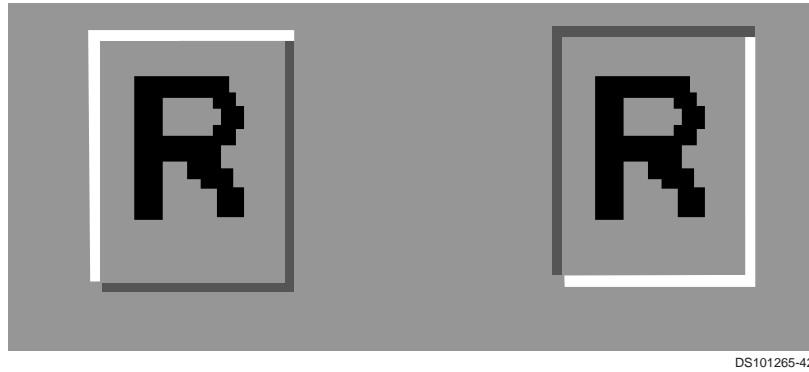

FIGURE 36. Button Boxes
1. **Button Boxes**—The OSD generator examines the character string being displayed and if the 'button box' attributes have been set in the Enhanced feature byte, then a box creator selectively substitutes the character pixels in either or both the top and right most pixel line or column with a button box pixel. The shade of the button box pixel depends upon whether a 'depressed' or 'raised' box is required, and can be programmed by I²C. The raised pixel color ('highlight') is defined by the value in the color palette register, EF1 (normally white). The depressed pixel ('lowlight') color by the value in the color palette register EF2 (normally gray). See *Figure 36*.